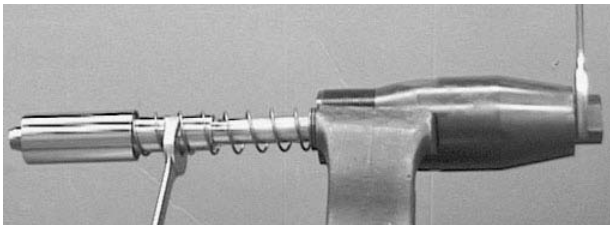

Figure 9-22. Secure Adapter to Valve Stem.
5. Use a 1-1/4-inch open-end wrench to hold the Adapter (18) in place, as shown in Figure 9-22.
6. With a 3/4-inch open-end wrench across the flats of the Valve Stem (11), thread the Valve Stem into the Adapter (18) until it is wrench tight. Refer to Figure 9-22.